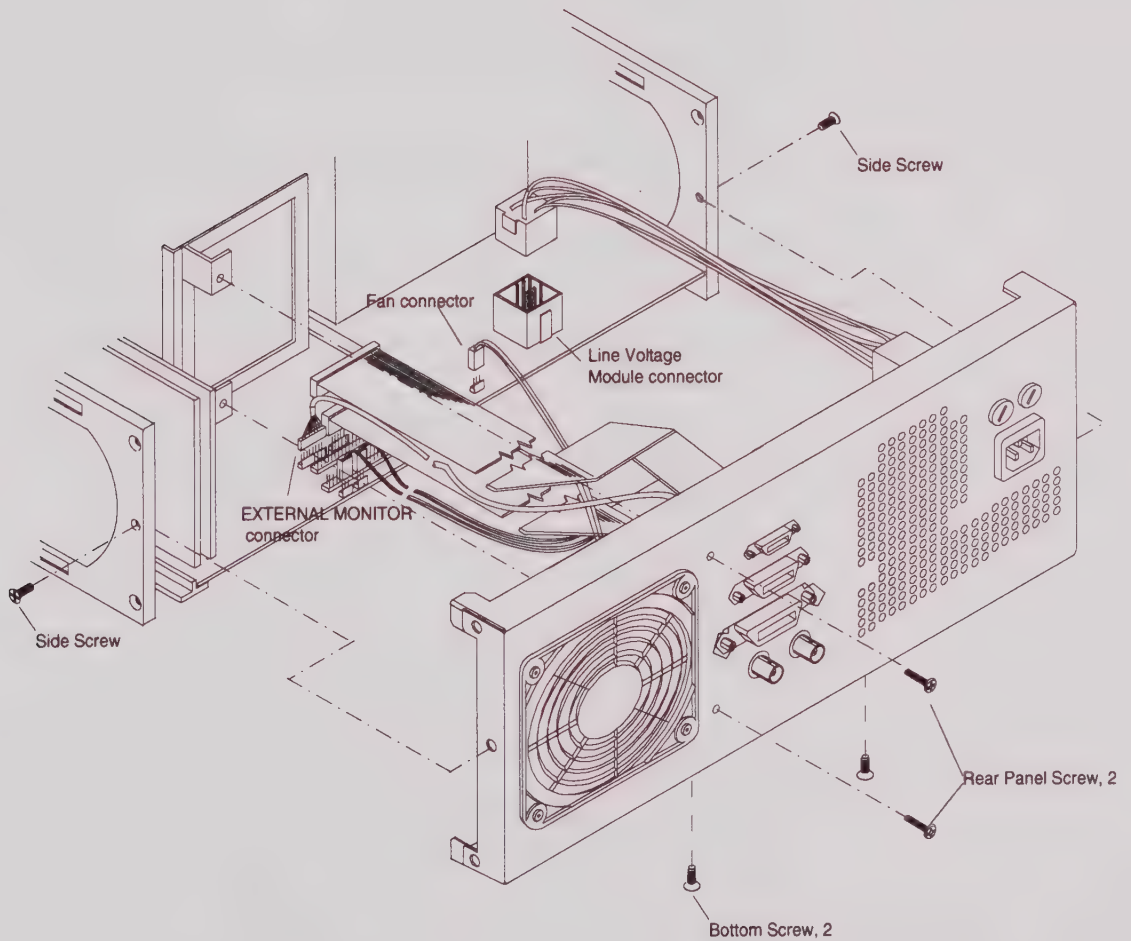

Figure 7-8. Exploded View of Rear Panel Assembly
- Step 1.** Orient the 541XXA as appropriate to remove two screws from the bottom of the rear panel and one screw from the middle of either side of the rear panel (Figure 7-8).